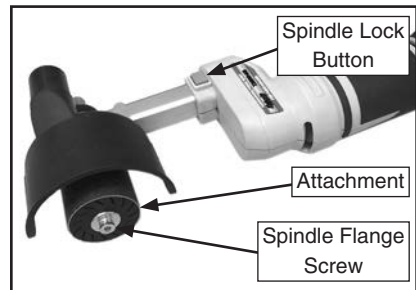

Figure 3. Attachment installation/removal components.
2. Press spindle lock button to prevent spindle rotation during next step (see **Figure 3**).
3. Remove spindle flange screw (see **Figure 3**), and remove attachment.
4. Slide replacement attachment onto spindle (see **Figure 3**).
5. Thread spindle flange screw into end of spindle, then press spindle lock button as you fully tighten screw (see **Figure 3**).